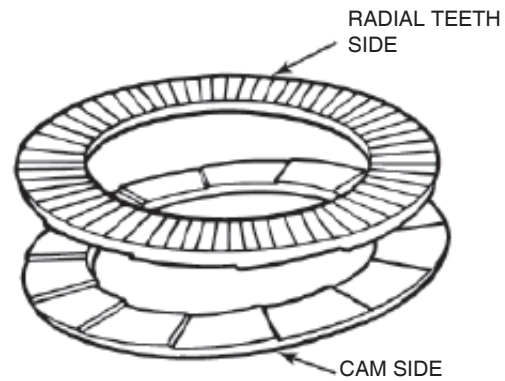

Figure 5.104
- For fasteners with Nord-Lock washers, install the washers with the radial teeth side facing the differential. Figure 5.104.